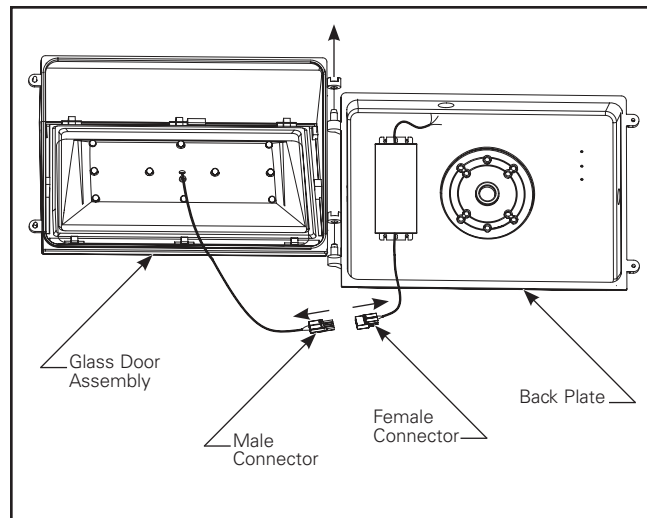

Figure 1.
1. Open the fixture by loosening the two Phillips head screws on the side opposite the hinges: Disconnect the male and female connectors. (Figure 1) Remove the glass door assembly, and gently set it aside.